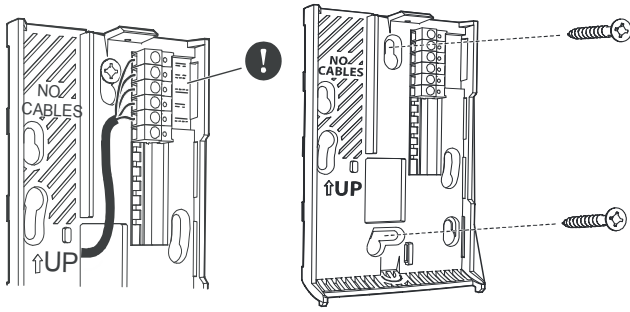

Figure 3: Route the Cable From Behind (Left) and Mount the Wall Plate (Right)
Note: Do not route the cable through the area marked NO CABLES on the mounting base (Figure 3). That space is taken up by the CO₂ measurement module when the cover is attached.
4. Align the mounting base on the wall, and confirm that the arrow imprinted on the mounting base is pointing up (Figure 3).
5. Secure the mounting base to the wall, using at least two field-supplied screws (Figure 3).